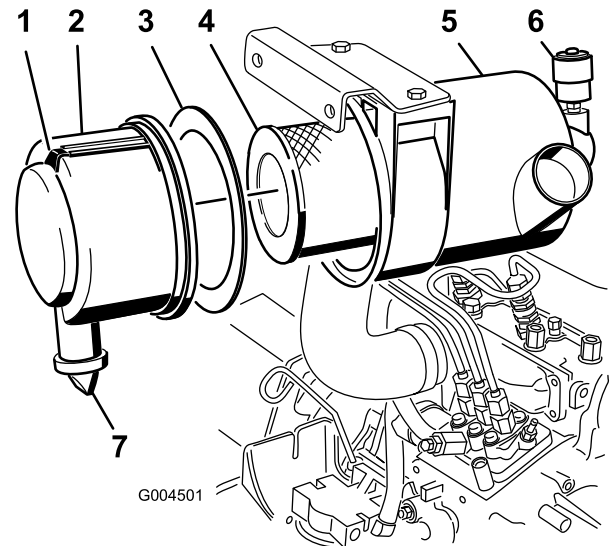

Figure 54
2. Service the air cleaner filter when the air cleaner indicator (Figure 54) shows red or every 400 hours (more frequently in extremely dusty or dirty conditions). Do not over service the air filter.
1. Pull the latch outward and rotate the air-cleaner cover counter-clockwise (Figure 54).
2. Remove the cover from the air-cleaner body (Figure 54).
4. Remove and replace the primary filter (Figure 54).
6. Ensure that the foam gasket is in place in the cover and that it is not torn or damaged (Figure 54).
- A. Remove the rubber outlet valve from the cover (Figure 54).
10. Reset the indicator (Figure 54) if showing red.